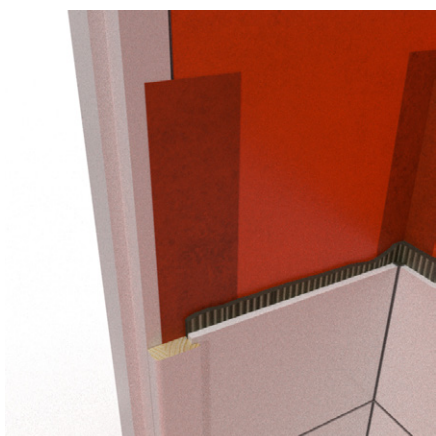

FIGURE 12. Sealing on frame
1. Sealing on doors and windows in wet zone 1, see Figure 12.
If doors and windows are situated in wet zone 1, the watertight membrane shall be extended to the frame so as to protect the edge of the wall board, see Figure 12.